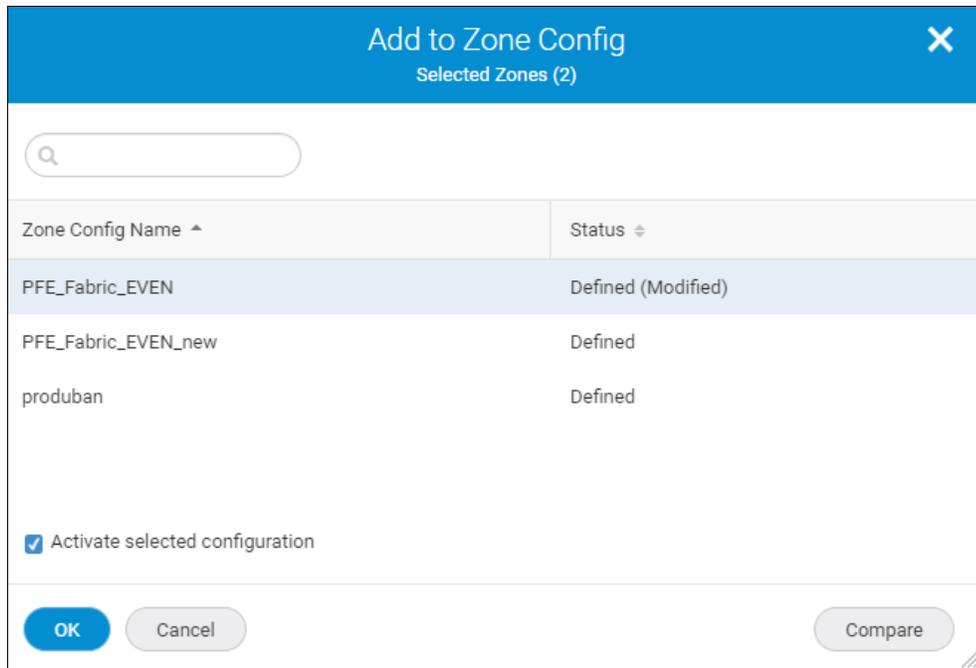

Figure 5-45 Add to Zone Config
6. To add a single zone to the zone configuration, click the drop-down arrow next to a zone, and then select the **Add to Zone Config** option, as shown in Figure 5-45.